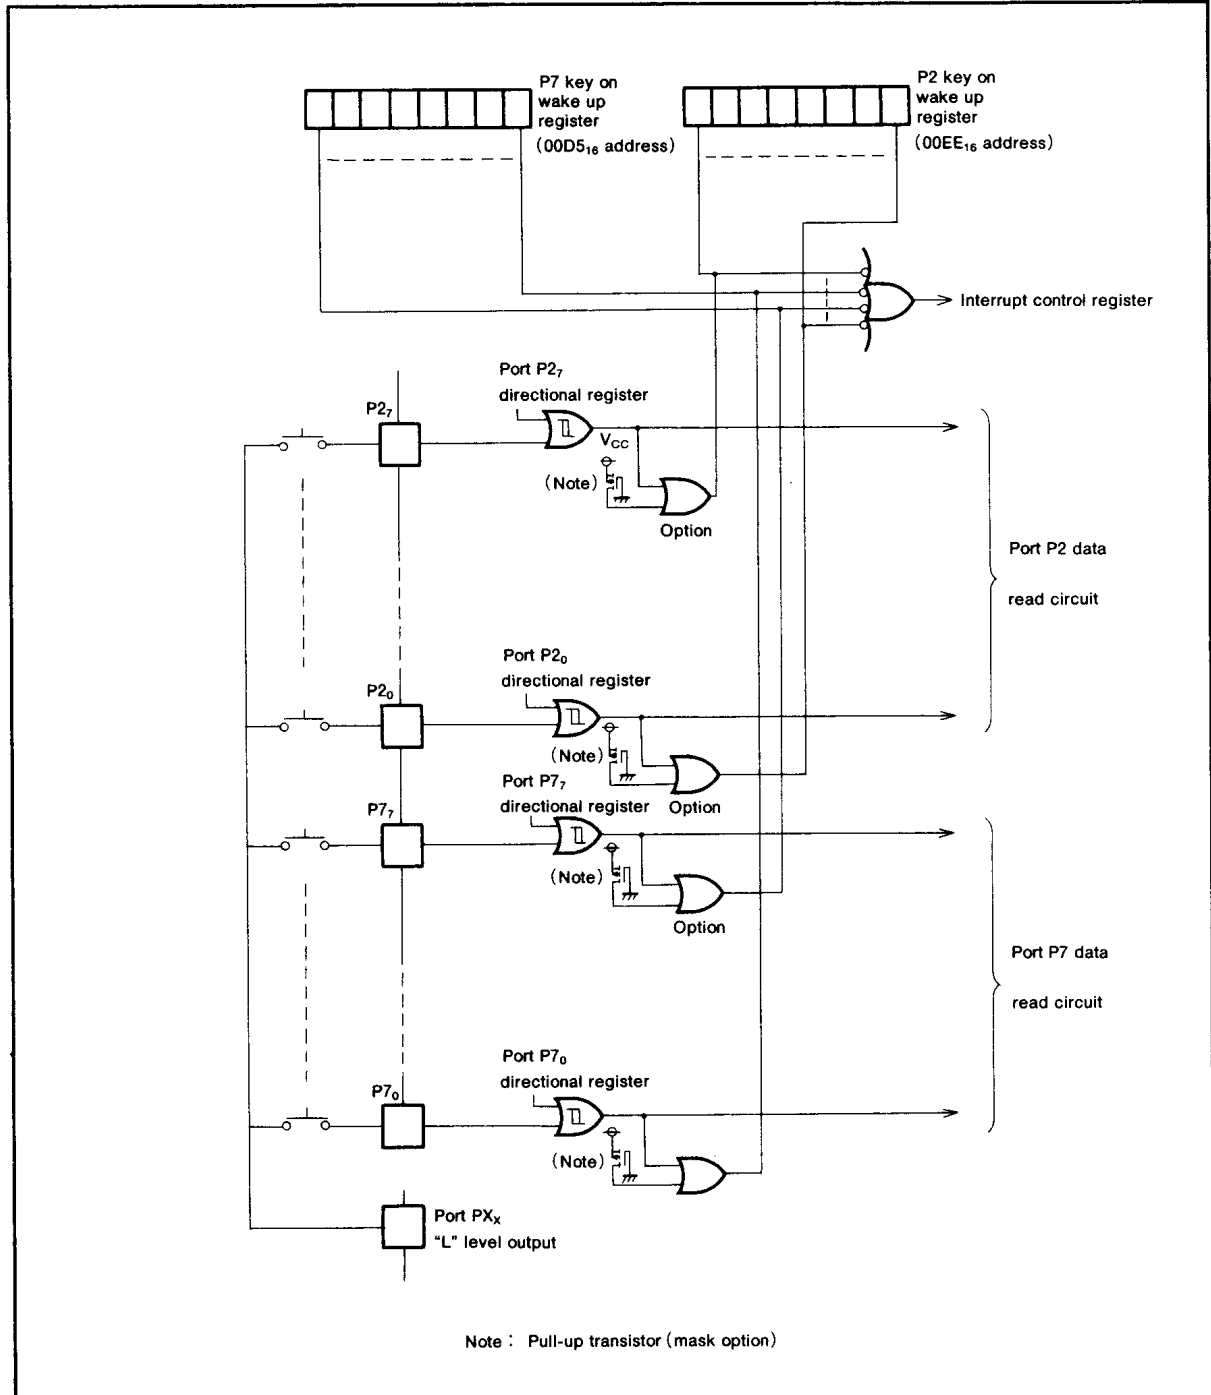

Fig. 16 Block diagram of port P2, P7 and example of wired at used key on wake up
As shown in Figure 16, if the key matrix of active "L" to input port P2, P7 are constructed, the microcomputer is returned to normal operating state by the key push. Refer to the section of interrupt how to use the key on wake up function. In order to enter the power down state generated by the STP or WIT instruction at the interrupt disable flag (I) is "0" and IC₂ is "1", the input designated as key on wake up by option in port P2, P7 must be all "H".